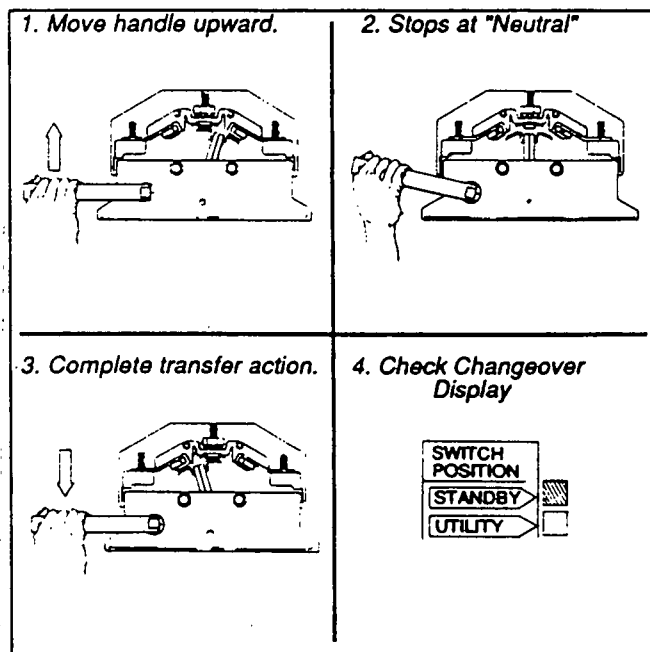

Figure 1. Manual Transfer Switch Operation
The transfer mechanism includes a set of auxiliary contacts. See Figure 1. Contacts identified as 1, 2 and 3 have been factory connected to switch position advisory lamps on the transfer switch enclosure door. Contacts 4, 5 and 6 are available for customer use, if desired. Refer to "Auxiliary Contacts" on Page 8.2-2.
5. Place open end of manual transfer handle over the square shaft on the transfer mechanism. See Figure 1. Then, actuate the handle as follows: